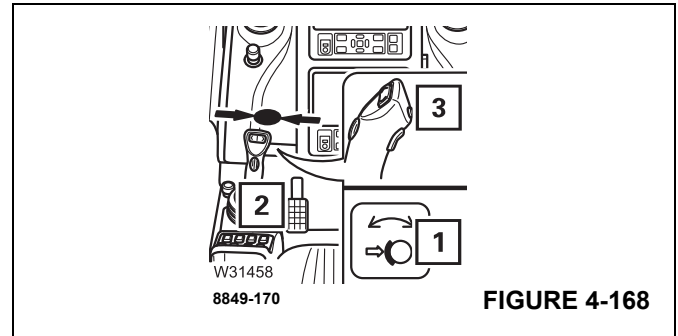

FIGURE 4-168
- Switch on the swing gear. The swing gear brake is released – lamp (1), (Figure 4-168) lights up.
- Shift the control lever (2) to its initial position.
- Press the button (3). The swing gear hydraulic brake is released.